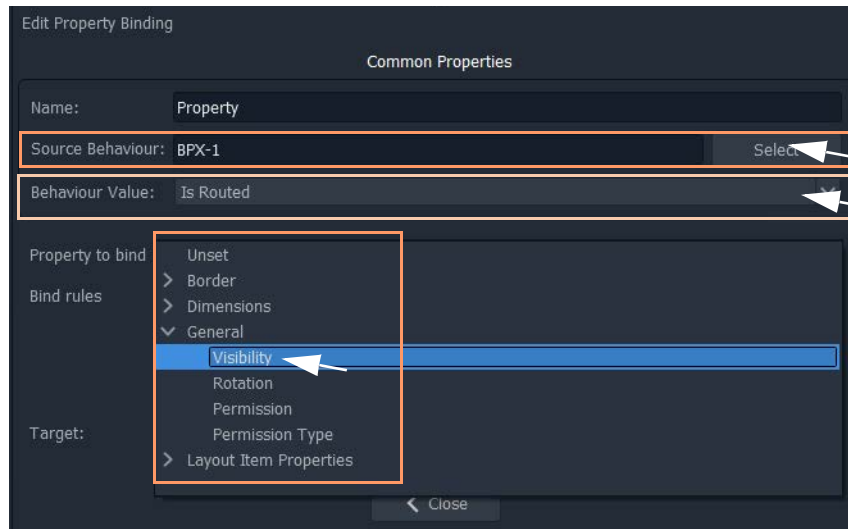

Fig. 13-62: Added Property Binding
- 6 Change the following **Property** Binding property values: (See Figure 13-62.)